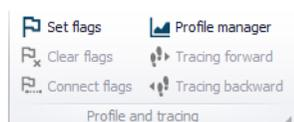

Figure 19.31 The Profile and Tracing toolbox on the Map ribbon
- On the Map View, define path flags via 'Set flags' on the 'Profile and Tracing' toolbox on the Map ribbon (Figure 19.31).